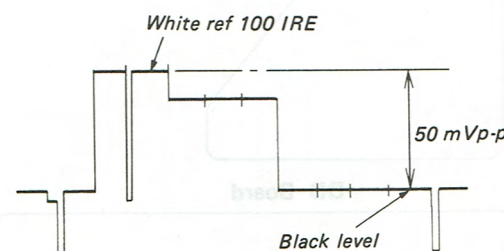

Fig. 36-2. CONT MIN LEVEL ADJ
7. Turn RV401 on BH Board and adjust so that the difference between the black level and the WHITE REF 100 IRE peak level is 50 mVp-p. See Fig. 36-2.